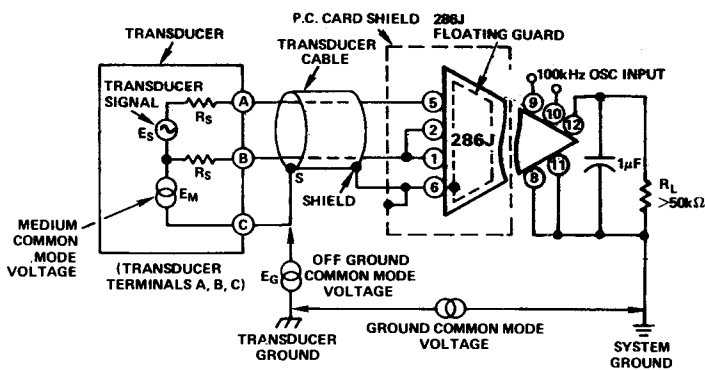

Figure 16. Transducer - Amplifier Interface
- Drive the transducer cable shield, S, with the common mode signal source, E_C , to reduce the effective cable capacitance as shown in Figure 16 below. This is accomplished by connecting the shield point S, as close as possible to the transducer signal low point B. This may not always be possible. In some cases the shield may be separated from signal low by a portion of the medium being measured (e.g. pressure transducer). This will cause a common mode signal, E_M , to be generated by the medium between the shield and the signal low. The 78dB CMR capability of model 286J between the input terminals (HI IN and LO IN) and GUARD, will work to suppress the common mode signal, E_M .